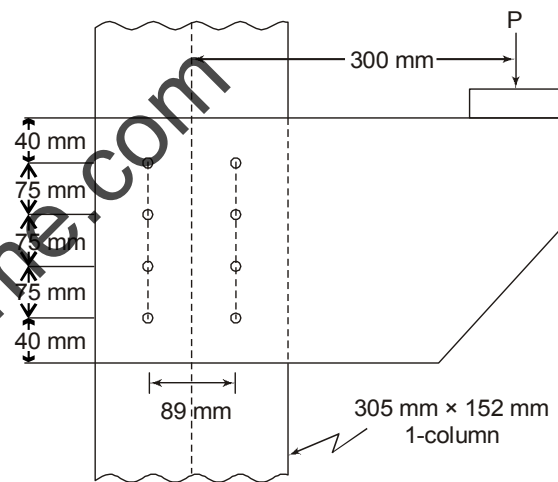

Fig. 4
11. Design a circular tank of 13.75 m diameter and 3.0 m height of wall. Free board = 0.3 m. The tank rests on a firm ground. The walls are fixed at base and free at top. (LSM). (30)
12. (a) The bracket shown in Fig. 4 consists of pair of mild steel plates riveted to the flanges of 305 mm × 152 mm I-column. If the resultant force on the critical rivet is limited to 45 kN, determine the load P, the bracket can support. (15)